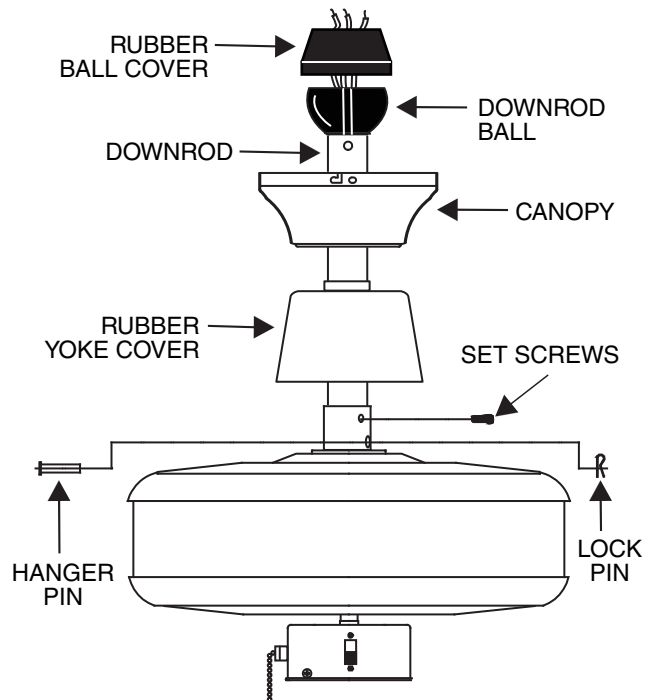

FIGURE 6
4. Route wires exiting from the top of the fan motor through the canopy and then through the ball/downrod and rubber ball cover. (Fig. 6)
5. Align the holes at the bottom of the downrod with the holes in the collar on top of the motor housing. Carefully insert the hanger pin through the holes in the collar and downrod. Be careful not to jam the pin against the wiring inside the downrod. Insert the lock pin through the hole near the end of the hanger pin until it snaps into its locked position. (Fig. 6)